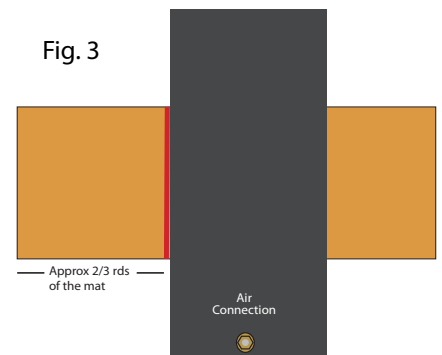
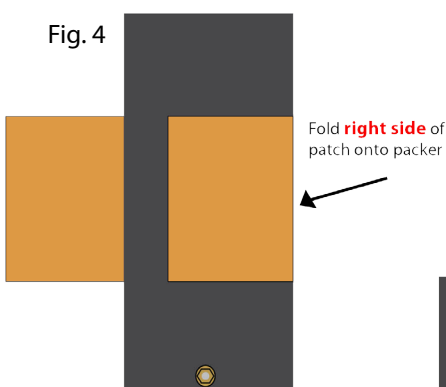
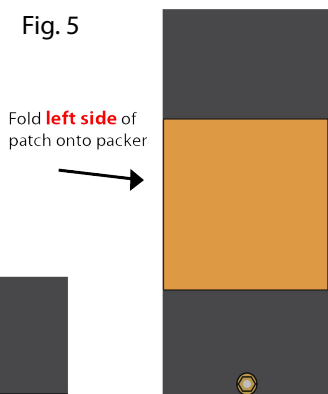

Fig. 3
Fig. 4
Fig. 5
**7. Folding the Packer:** Position the packer on the folded mat with approximately two thirds of the mat showing to the left side of the packer (Fig. 3.). Fold the right side of the wetted mat over the packer (Fig. 4). Fold the left side of the wetted mat over the packer overlapping the first fold and fold any excess under the packer's right edge (Fig. 5). Fold back the left side of the loaded packer (Fig. 6). Fold back the right side of the packer (Fig. 7). Fold or roll the work surface to the edges of the packer.